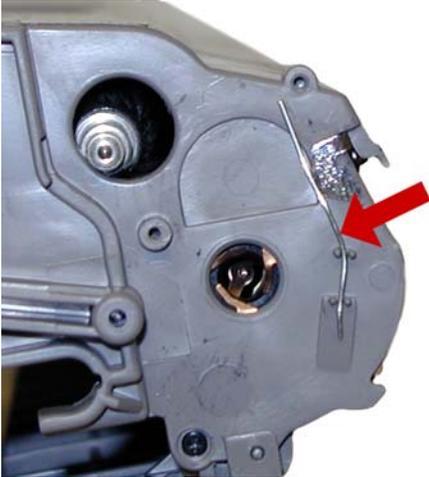

Figure 26
23) Remove the small metal wire contact so it does not get lost. See **Figure 26**